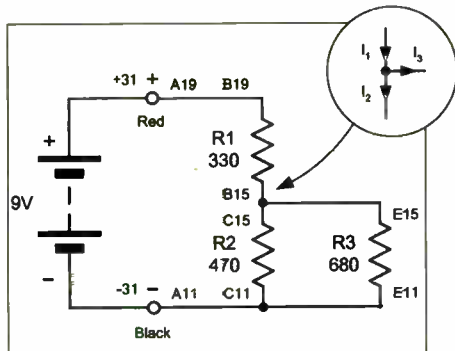

Fig.2.13. Circuit diagram for the series-parallel circuit investigation.
**Circuit diagram:** See Fig.2.13
Use Kirchhoff's Current Law to write down an expression for the currents at the junction of R1, R2 and R3 (see inset in Fig.2.13). Then substitute the values that you obtained by measurement and check that Kirchhoff's Current Law is obeyed.